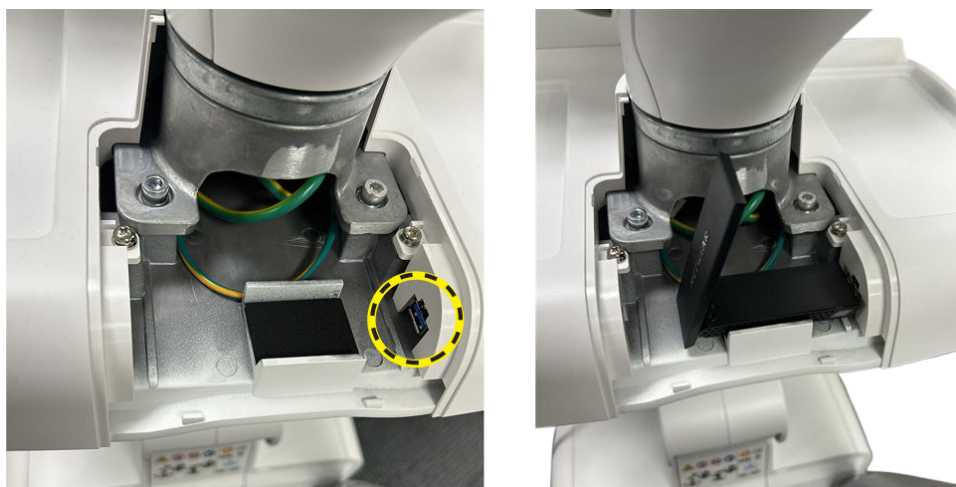

Figure 4-28 Designated USB A port for Wireless Network Adapter
3. Plug the Wireless Network adapter into the intended USB-A port of the ultrasound system as shown in Figure 4-28 Designated USB A port for Wireless Network Adapter on page 116. All software drivers are pre-installed for the designated Wireless Network adapter only.